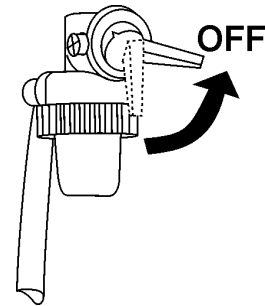

Figure 34. Engine Fuel Valve Lever (OFF)
5. Place engine fuel valve lever (Figure 34) in the **OFF** position.